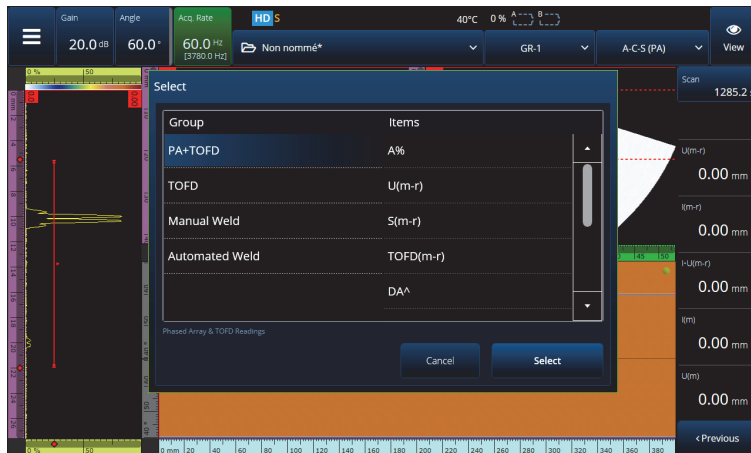

Figure 2-63 Selecting the Reading List
All ten readings displayed on the right-hand side of the screen are included in a generated report and saved in a setup file. You can easily switch which UT parameters are displayed in the readings, either individually or as a list. A description for each parameter is provided in the readings **Select** menu when it is highlighted (see Figure 2-63 on page 111).
- a) With **Select Reading List**, you can choose from a list of preconfigured readings (see Figure 2-63 on page 111).